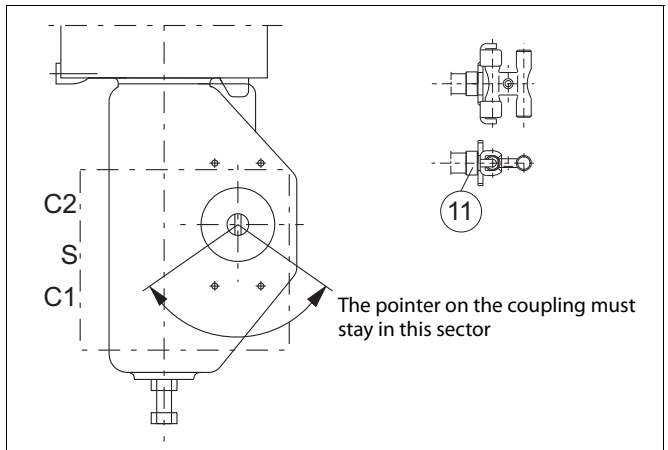

Fig. 7 Mounting on Metso actuator with VDI/VDE mounting face
Shaft coupling alternatives for the controller for Metso actuators are shown in Fig. 7.
- ❑ Mount the H-shaped coupling (47) to the shaft. Apply the thread-locking compound to the screw (48) and tighten firmly.
- ❑ **BJ and other single acting actuators:** mount a metal plug (53) with sealant to the C1 connection.
- ❑ Set the direction arrow of the actuator in the direction of the valve closure member and attach the ear (2) to the indicator cover in the position shown in Section 11.3. Secure the screw of the ear using e.g. Loctite and tighten firmly.
- ❑ Attach the bracket (1) to the ValvGuard.
- ❑ Attach the bracket (1) to the actuator. The shaft coupling of the ValvGuard must fit into the ear (2) so that the pointer is located in the position shown in Fig. 7.